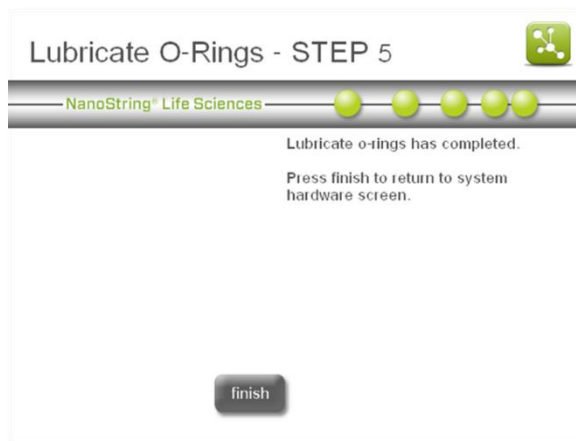

Figure 123: The 'Lubricate O-rings – STEP 5' screen.
5. At the end of the workflow (**Figure 123**), press **finish** to return to the Maintenance Menu.